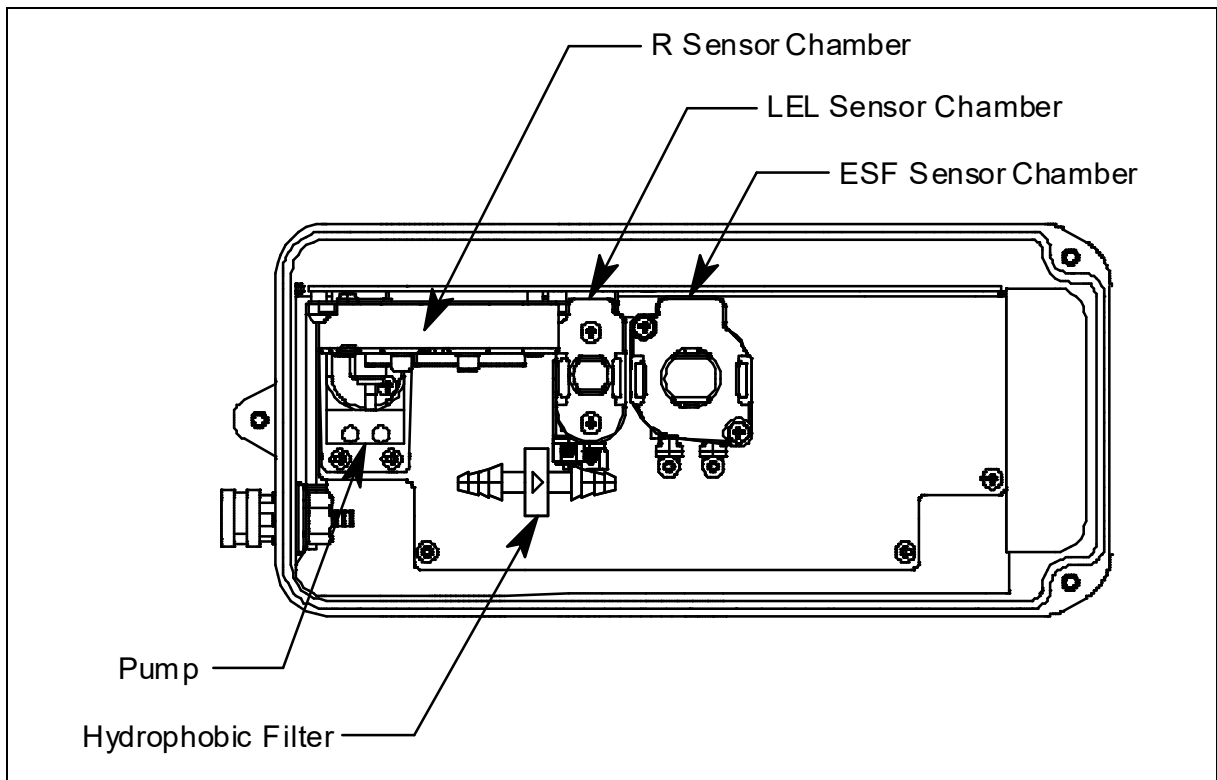

Figure 37: Typical ESF Sensor Location
The ESF sensor is installed in a single sensor flow chamber which is located next to the LEL sensor chamber. This area can accommodate up to three single sensor flow chambers. Although the EAGLE 3 can support up to three ESF sensors, many combinations are impractical for various reasons including sensor cross sensitivity to other gases. Consult with RKI Instruments, Inc. for practical combinations. Figure 37 above illustrates a typical ESF sensor location. The ESF flow chamber may also be installed in one of the other two sensor chamber locations depending on the particular version of the EAGLE 3. Some ESF instrument configurations do not include the LEL sensor chamber.
6. Locate the ESF sensor and retainer. Figure 37 on page 214 shows an ESF sensor in a typical location.